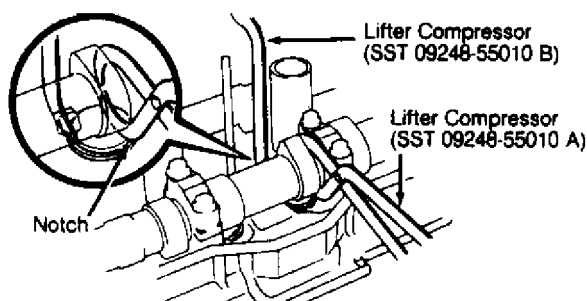

Fig. 7: Removing Valve Adjusting Shim
3) On valves not within specification, rotate crankshaft until camshaft lobe is at lowest point on valve to be adjusted. Position notch in lifter as shown. See Fig. 7. Using Lifter Compressor (SST 09248-55010-A & B), remove shim with small screwdriver and magnet.